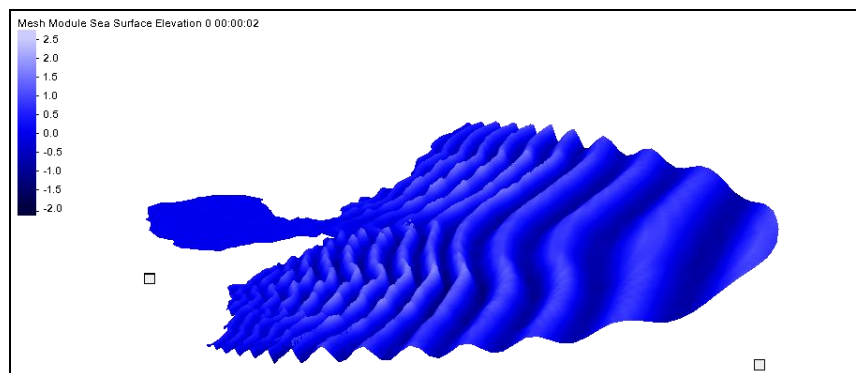

Figure 7 Functional surface showing waves
19. Using the **Rotate**  tool, rotate the mesh so it looks like Figure 7.